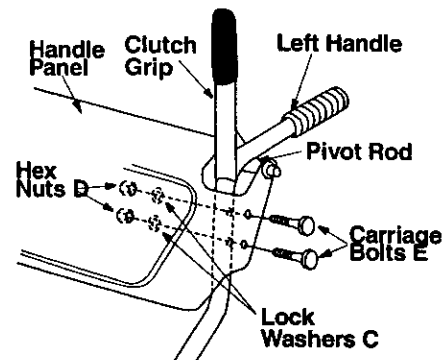

Figure 2
- Lower left and right handles down through handle panel between the pivot rod and the clutch grips and attach using two each of carriage bolts (E), lock washers (C) and hex nuts (D). See Figure 2.